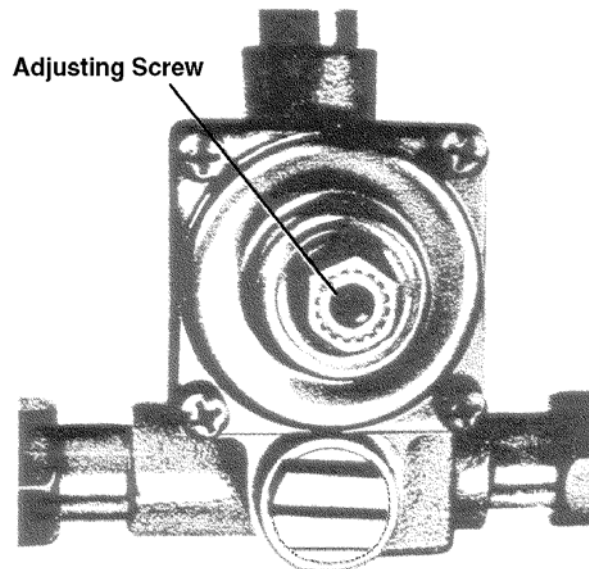

Figure 3-2. Valve adjusting screw.
- (1) Adjust the temperature. If the water temperature is too hot or cold you must adjust the temperature.
- (c) Turn the adjusting screw clockwise to reduce outlet temperature or counterclockwise to increase the outlet temperature. Refer to figure 3-2.